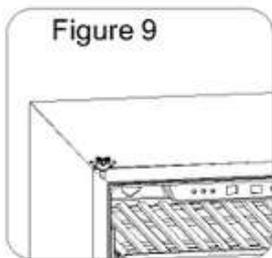

Figure 9
- 6 Install the upper door hinge to the opposite side and tighten the screws (Fig 9).